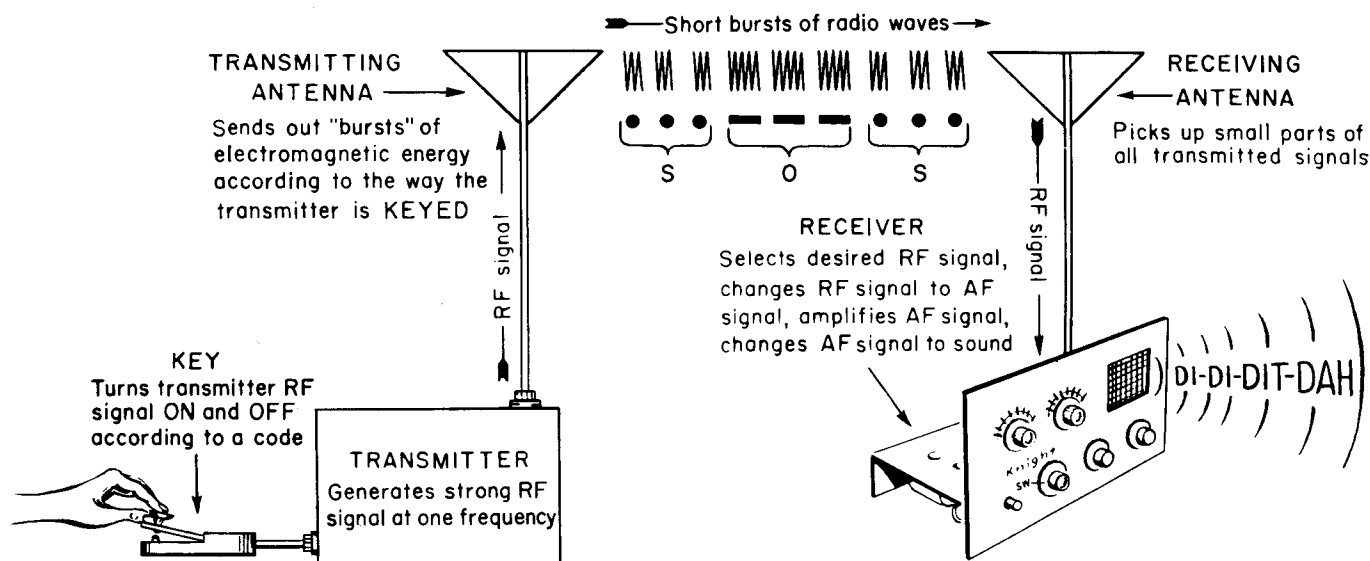

FIGURE 9. RADIO COMMUNICATION USING CODE
Marconi's method of communication is shown in Figure 9. This method is still the most widely used of all systems because it is possible to send code messages much farther and more distinctly than voice messages with a given amount of power. This is especially important in amateur radio work where the maximum power allowed is 1,000 watts (1 kilowatt). As shown, code messages are sent from a transmitter that generates a radio-frequency (RF) signal of one frequency. The key, which is worked by